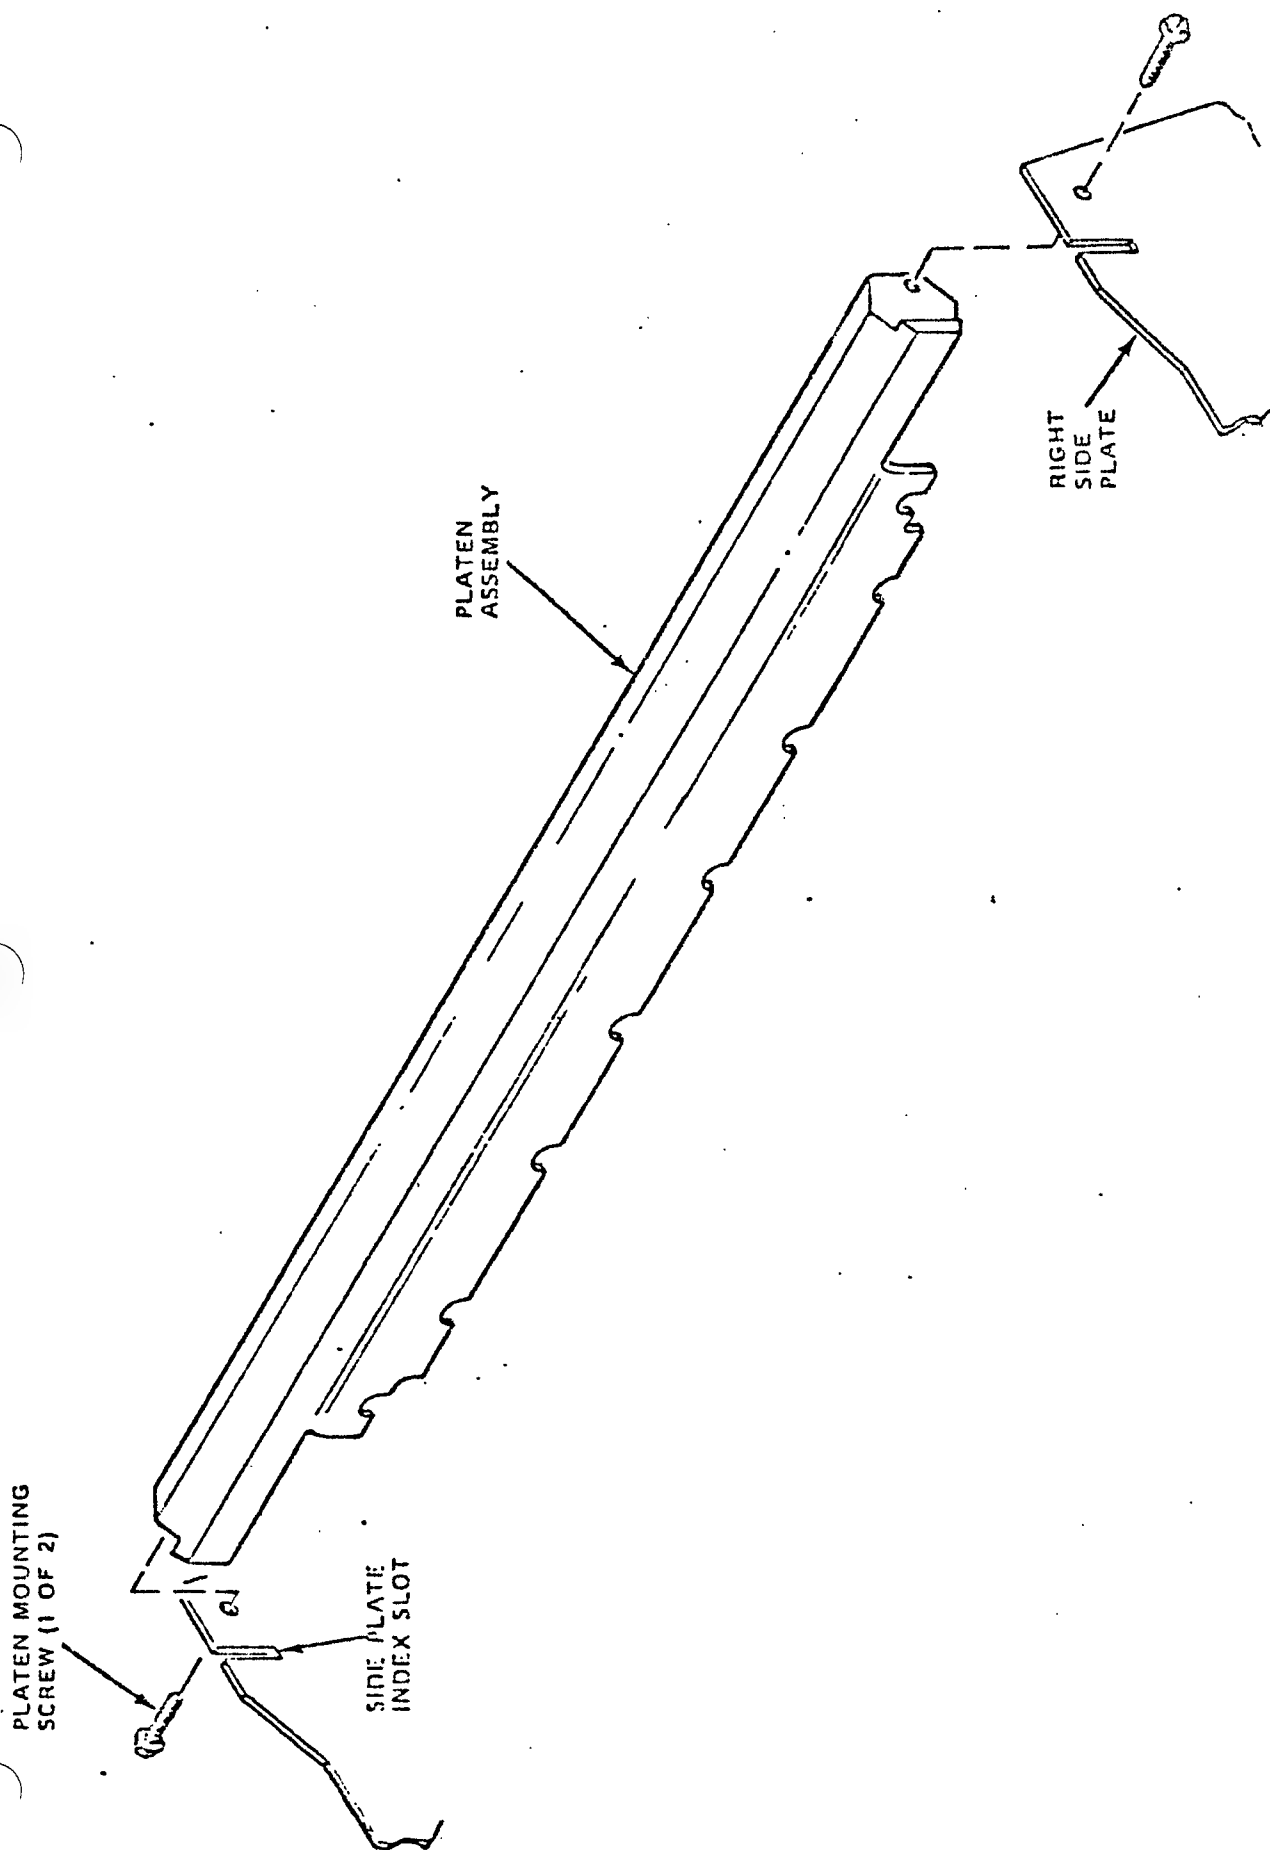

Figure 5-8. PLATEN ASSEMBLY REPLACEMENT
5.9 PLATEN ASSEMBLY (Reference Figure 5-8).